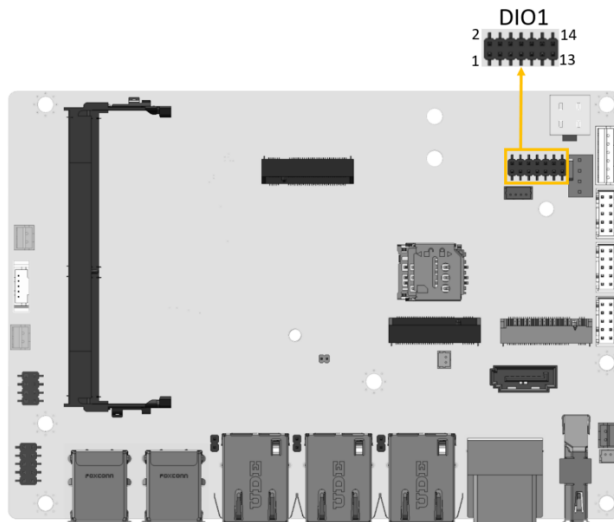

Figure 4-3: Digital I/O Connector Location
- CN Location:** See **Figure 4-3**